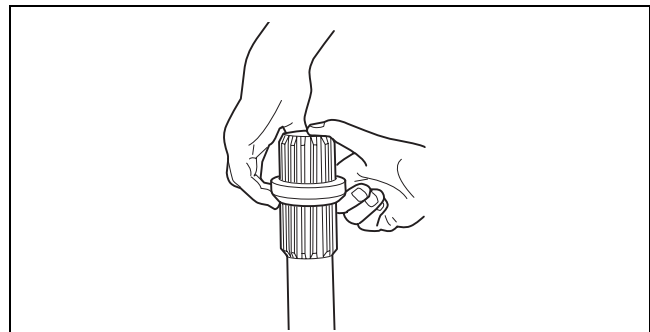

Figure 8.16
3. Remove the seal from the slip shaft. Figure 8.16.